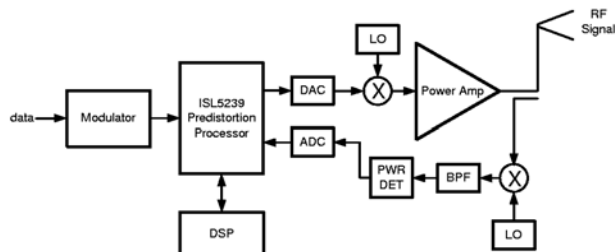

FIGURE 1. SYSTEM OVERVIEW
The ISL5239 is a full-featured digital pre-distortion part featuring a high-performance lookup-table based pre-distortion (PD) processing unit. It includes an interpolator for upsampling and supports all varieties of upconversion architectures with a programmable correction filter for equalization including both  $\sin(x)/x$  correction and removal of frequency response imbalance between quadrature paths. It also features gain, phase, and offset compensation for direct upconversion, digital IF output for heterodyning, and input/output capture memories with internal/external triggering capabilities to facilitate closedloop feedback processing. System implementation is typically as shown in Figure 1. Although the power detect feedback is shown with one Analog to Digital Converter (ADC), coherently demodulated feedback signals LO configurations with 1 or 2 ADC's are also supported.